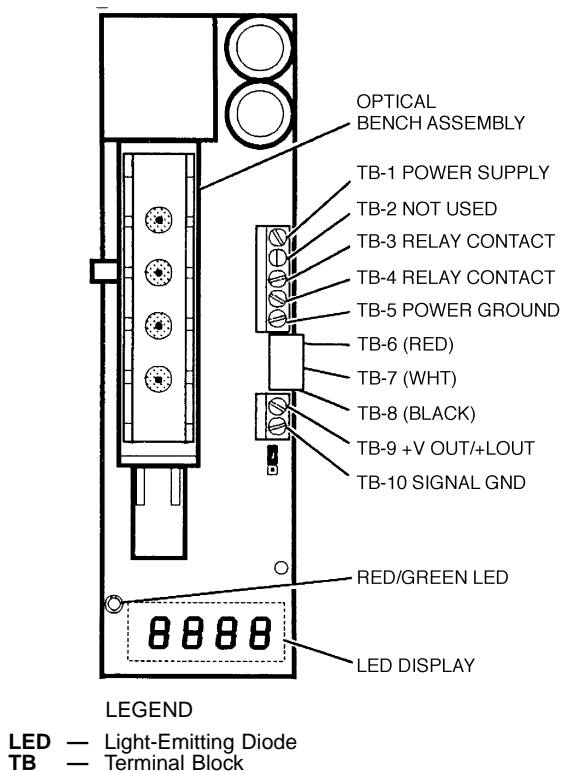

Fig. 3 — Sensor Terminals
3. Connect the RS-232 cable to the terminal block. The pin assignments of the terminal block are shown in Table 1. The table also lists the terminal block designations and maximum electrical ratings for the unit. See Fig. 3 for terminal locations on the circuit board.